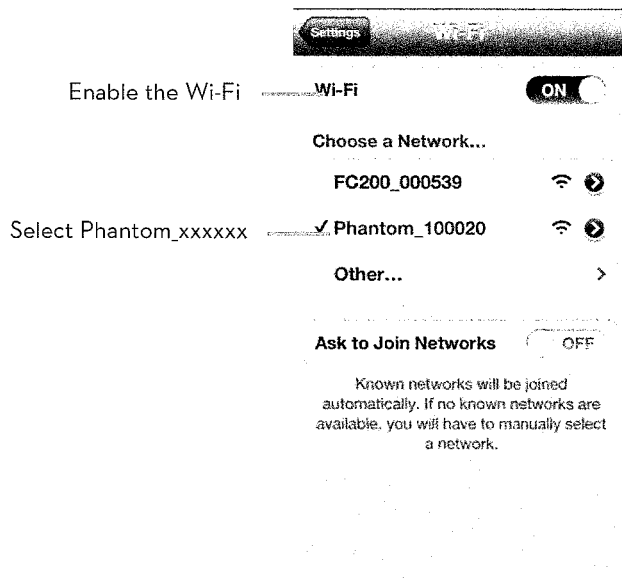

Fig.1
3. (Fig.1) Enable the Wi-Fi on your mobile device; wait for about 30 seconds, and then select the Phantom_xxxxxx from the Wi-Fi network list.